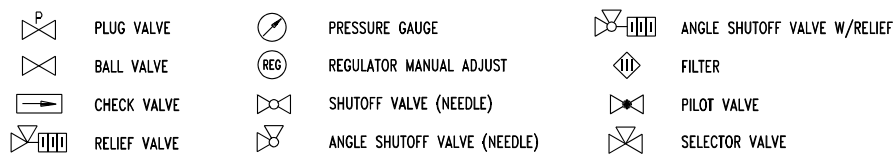
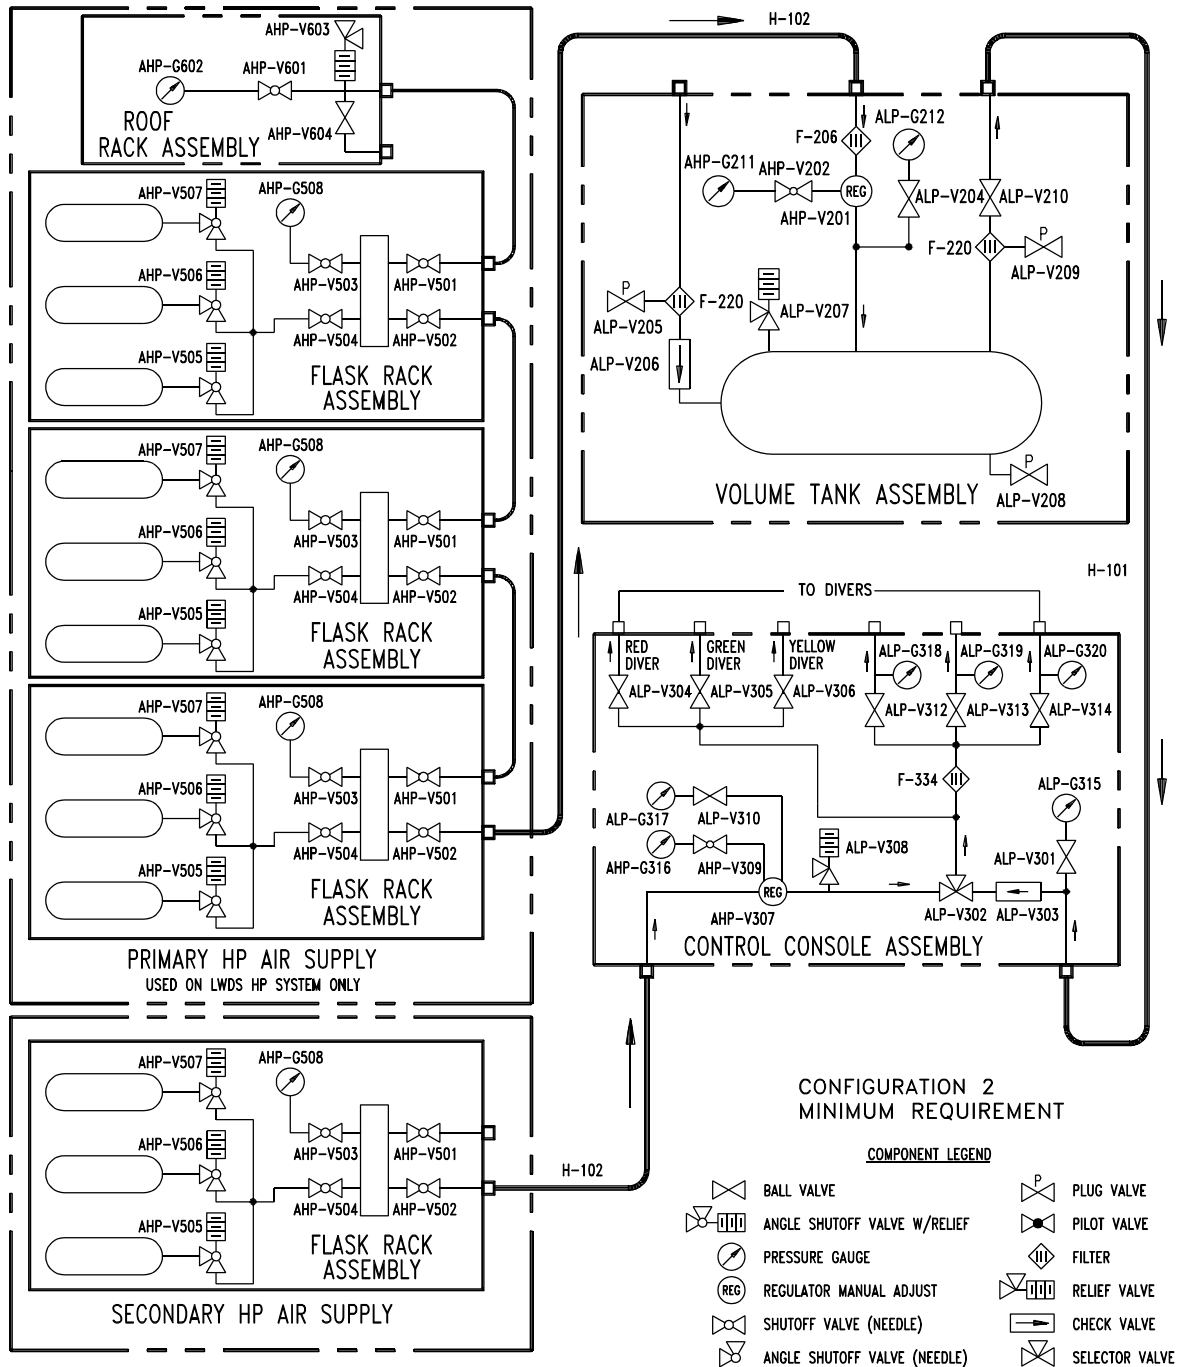
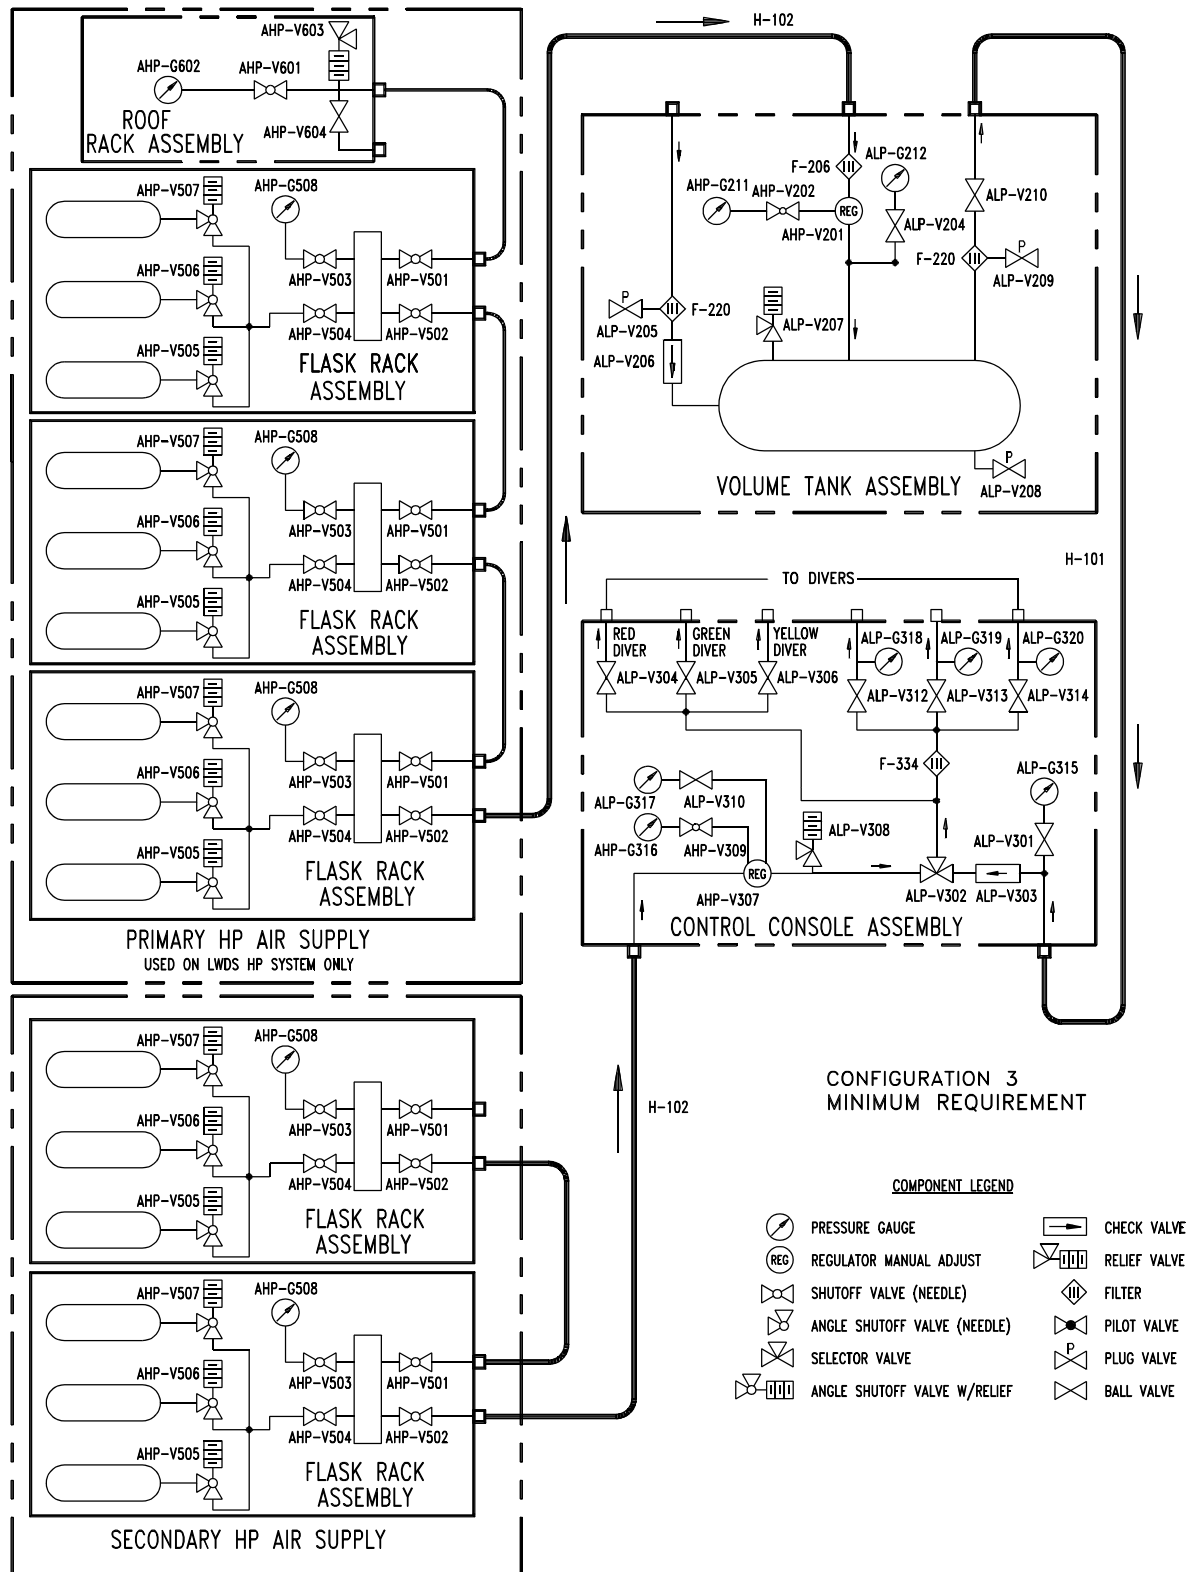
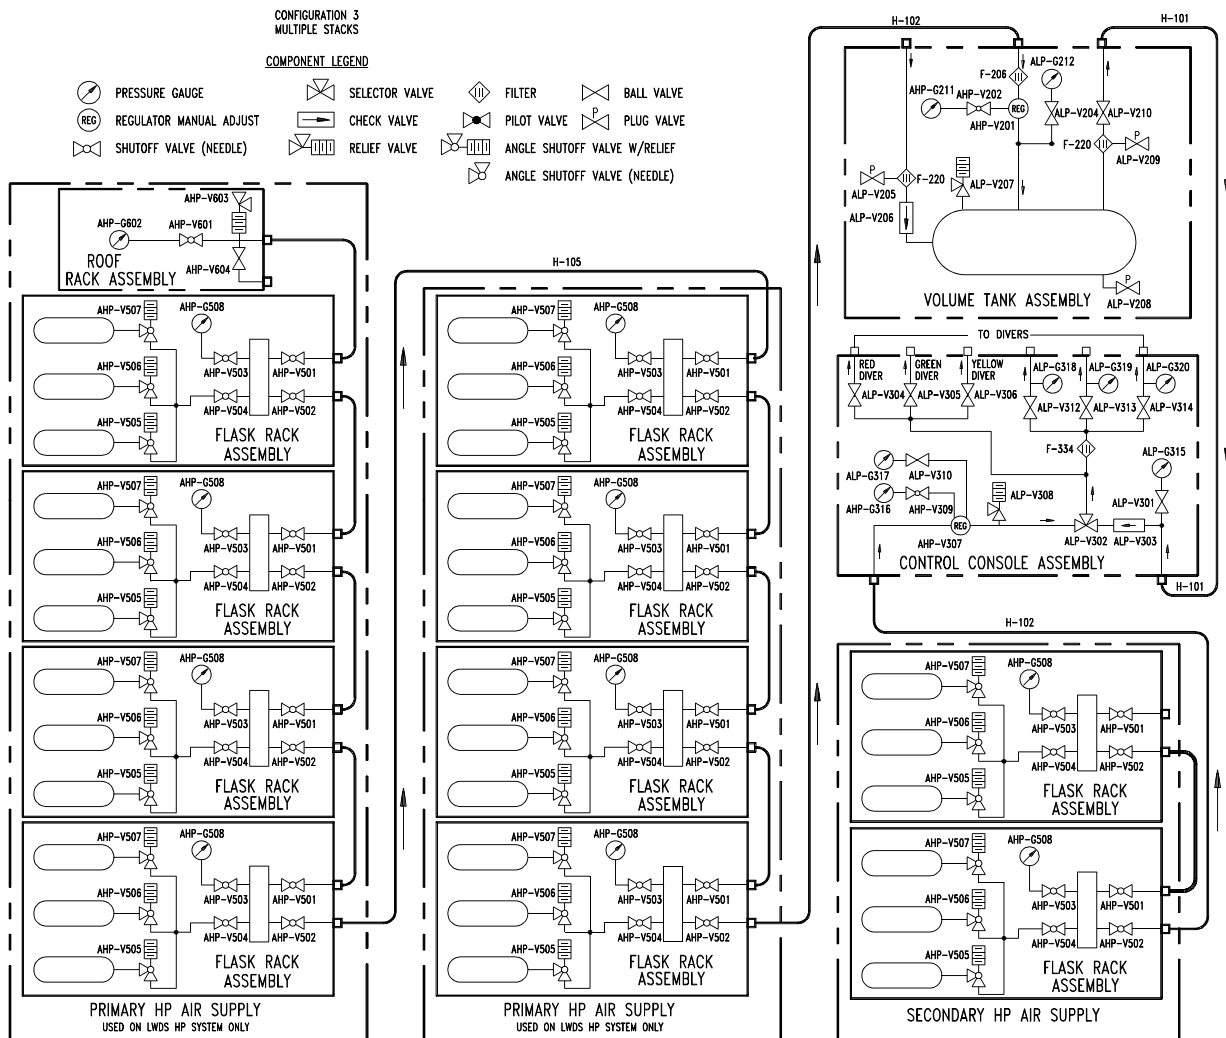

Figure 3-1. LWDS MK 3 Mod 0 Functional Diagram, Configuration 1
Figure 3-2. LWDS MK 3 Mod 0 Functional Diagram, Configuration 2
Figure 3-3. LWDS MK 3 Mod 0 Functional Diagram, Configuration 3
Figure 3-4. LWDS MK 3 Mod 0 Functional Diagram, Multiple Stacks of Flask Racks, Configuration 3
The LWDS uses one of three equipment configurations to provide breathing air to two working divers (and one standby diver) operating at a moderately heavy work rate to a maximum dive depth of 60 feet of seawater (fsw) with Configuration 1, 130 fsw with Configuration 2, and 190 fsw with Configuration 3. Paragraph 3.2.1 describes how primary air is supplied in each configuration. A secondary (emergency) high pressure (HP) air supply (paragraph 3.2.2) is available in all three configurations should component failure occur upstream from the control console assembly and cause loss of the primary air supply. Functional diagrams showing the complete flow of primary and secondary air as supplied by the LWDS in Configurations 1, 2, and 3 are provided as Figures 3-1, 3-2, and 3-3, respectively. Figure 3-4 serves as an additional reference for Configuration 3 when multiple stacks of flask racks are required for the dive mission.
3.2.1 PRIMARY AIR SOURCE. Primary air for the LWDS is supplied as low pressure (LP) air from the diesel-compressor assembly (Configuration 1) or as HP air from a minimum of three flask rack assemblies (Configurations 2 and 3). All primary air supply components are interconnected by hose assemblies.
3.2.1.1 Configuration 1. LP air from the diesel-compressor assembly passes through a moisture separator, then flows to the volume tank assembly where it is filtered and transferred to the control console assembly. At the control console assembly, control valves direct the LP air into the diver umbilicals. This air flow path is shown in Figure 3-1.
3.2.1.2 Configurations 2 and 3. When the primary HP air supply is used in Configurations 2 and 3, HP air flows directly to the volume tank assembly where it is filtered and then reduced to LP air through a regulator. The LP air is supplied to the divers in the same manner as in Configuration 1. The primary air flow path for Configuration 2 is shown in Figure 3-2. The air flow paths for Configuration 3 are shown in Figure 3-3 (minimum requirements) and Figure 3-4 (multiple stacks of flask racks).
3.2.2 SECONDARY AIR SOURCE. Regardless of the equipment configuration used, the secondary HP air supply is connected to the control console assembly during normal operations to ensure immediate availability of an emergency air supply (see Figures 3-1 through 3-4). HP air is reduced to LP air through the control console assembly.
When scheduled dive air requirements exceed the capacity of one stack of flask rack assemblies, the HP air flasks may be recharged, more flask rack assemblies added, or a combination thereof may be used without interruption of the mission. Each stack of flask rack assemblies shall not exceed four high. When multiple stacks are used, the stacks are interconnected (see Figure 3-4) and the roof rack assembly is placed on the last stack.
The Lightweight Dive System (LWDS) MK 3 Mod 0 is a Naval Sea Systems Command (NAVSEA) certified diving life support system and must be maintained in accordance with certification. The scope of certification is defined in detail in NAVSEA T9592-AB-SPN-010, *Specifications for Construction Lightweight Dive System FY 89*. The certification boundaries for Configurations 2 and 3 encompass all the components shown in Figures 3-2 through 3-4, and Figure 4-1 defines the certification boundaries for Configuration 1. Note that the diesel engine (not shown) and the compressor up to the unloader valve are outside the certification boundaries.